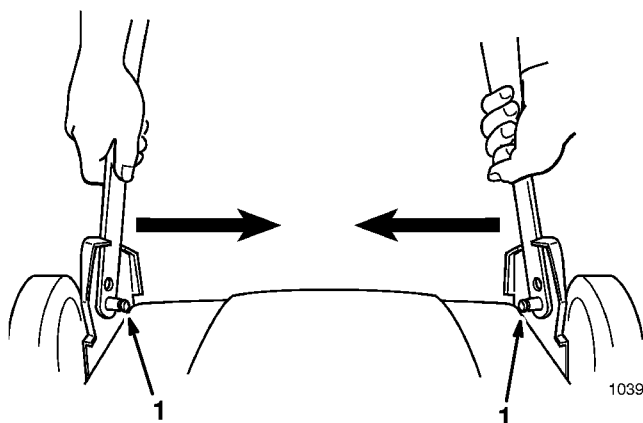

Figure 13
1. Squeeze bottom handle sections together and slide off handle pins (Fig. 13).